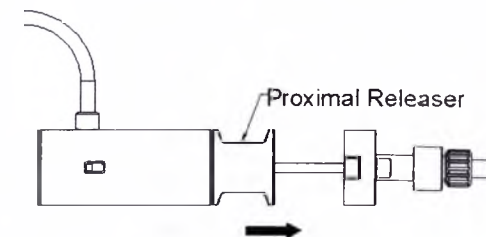

Fig. 8 Pull the Proximal Releaser
- ♦ Pull the Proximal Releaser to release the proximal spring of the stent graft. (Fig. 8)